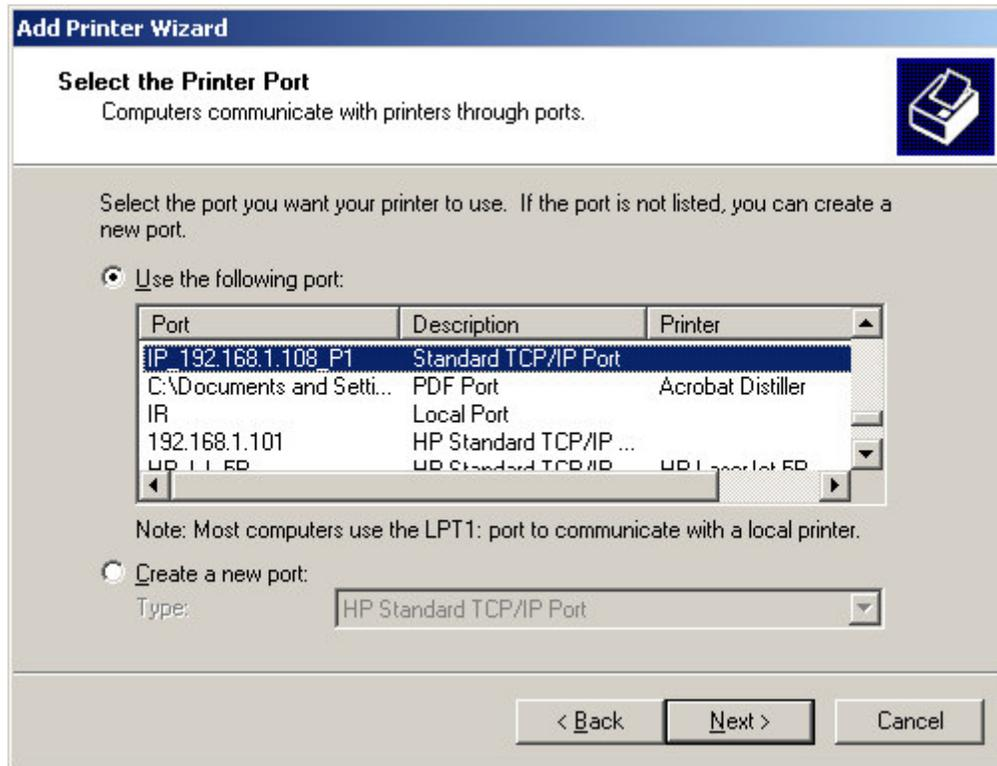
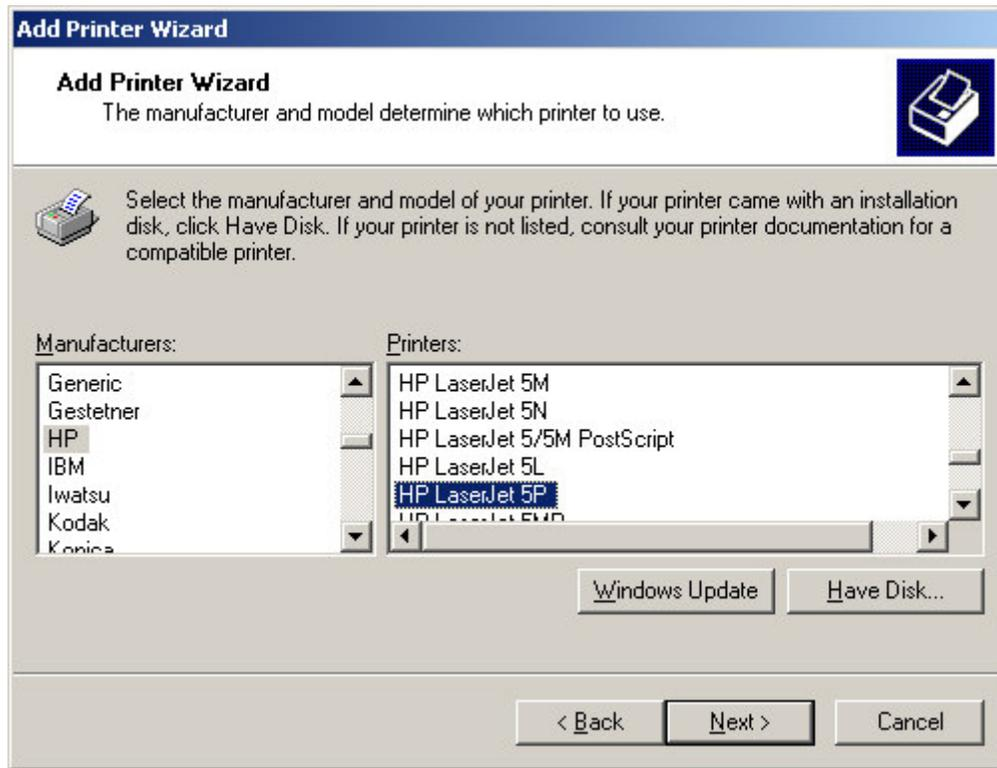

Figure 4-22 Find and select the printer port
Figure 4-23 Add Printer Wizard
If you are a Microsoft Windows 9x (95, 98, and ME) user, you will not see this window here. You probably will go to a different window like Figure 4-23 first, after that you'll find the similar window here.
2. Use the printer port name written at the last section. Scroll down and find the printer port name. For example, the printer port name here is 'IP\_192.168.1.108\_P1'. See Figure 4-22 Find and select the printer port. For Windows 95, and 98 users, this window will show up after Add Printer (Figure 4-23 thereafter).
Add Printer Wizard, Figure 4-23 Add Printer Wizard window, shows. Choose the manufacturer and the model name of the printer. If there is a CD provided with the printer, insert the CD and click on 'Have Disk...' button. Follow the instruction on screen to install the correct driver.